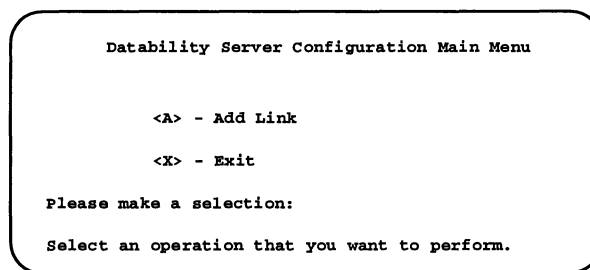

Figure 2-3. Configuration main menu
4. After the commands are sent, press any key to display the Configuration main menu, figure 2-3. This screen permits you to either add a new link from the server to a remote host or to exit the configurator and end the server configuration process.
If the server already has an IP address, the first screen you see when you execute the **config** command is the configuration main menu (figure 2-3). This screen permits you to either add a new link from the server to a remote host or to exit the configurator and end the server configuration process.